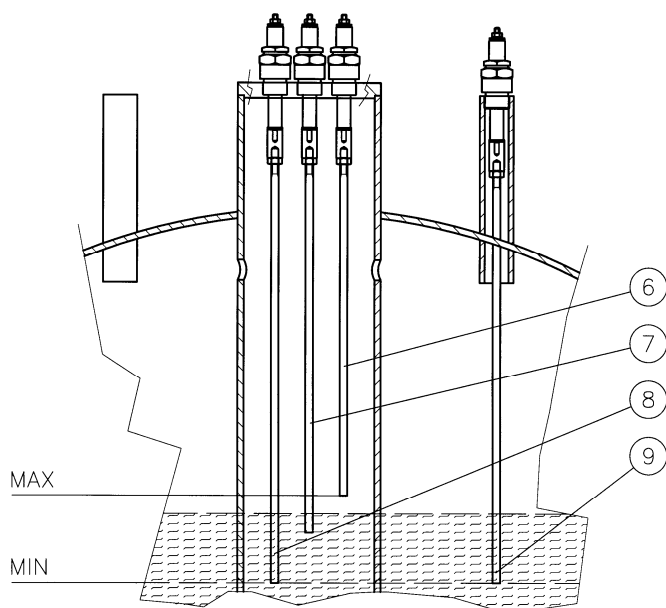

Fig. 8
2.2.2 Automatic level regulator and water level limits (Fig. 8)